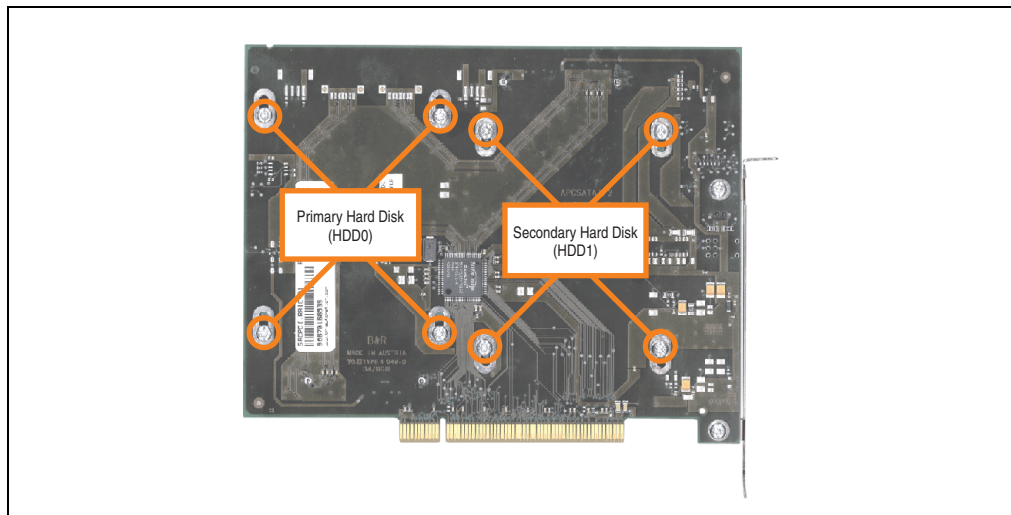

Figure 334: Screw assignment on the back side of the SATA RAID controller
- Loosen the 4 appropriate mounting screws (M3x5) - see Figure 334 "Screw assignment on the back side of the SATA RAID controller", on page 563.